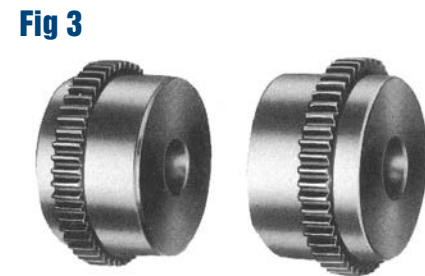

Fig 3
**Precision-machined identical hubs (Fig. 3)** Two identical hubs, machined to close tolerances, contain external Fully-Crowned Gear Teeth which totally engage internal teeth of the sleeve. Fully-Crowned Teeth enable coupling to operate longer, with minimum backlash while assuring free axial movement of connected shafts.